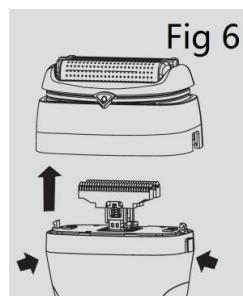

Fig 6
2. Press down the release buttons on both sides of the shaver to unload the shaver head part (Fig 6).
1. Unload the shaver head (Fig 6)